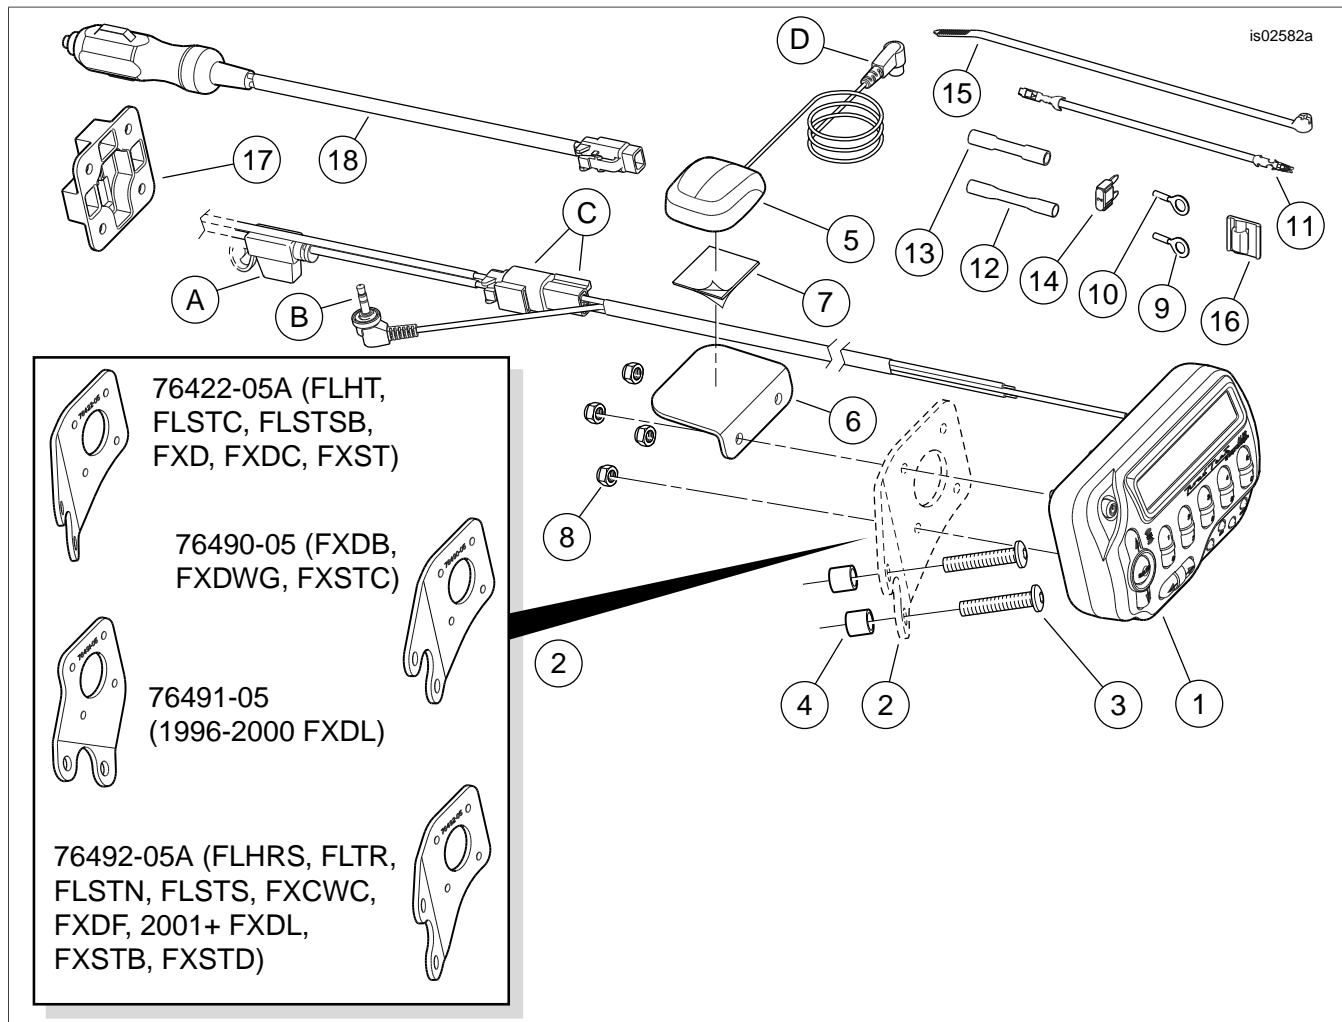

Figure 12. Service Parts, Road Tech XM Satellite Radio Kit
6. See Figure 12. Cut the excess length from the orange/white satellite receiver harness wire. Using the red sealed splice connector (12) from the kit, splice that wire to the adapter wire installed in Step 4.
7. Install the 2A fuse (14) from the kit into fuse cavity 1A-1B (4) to complete the circuit.